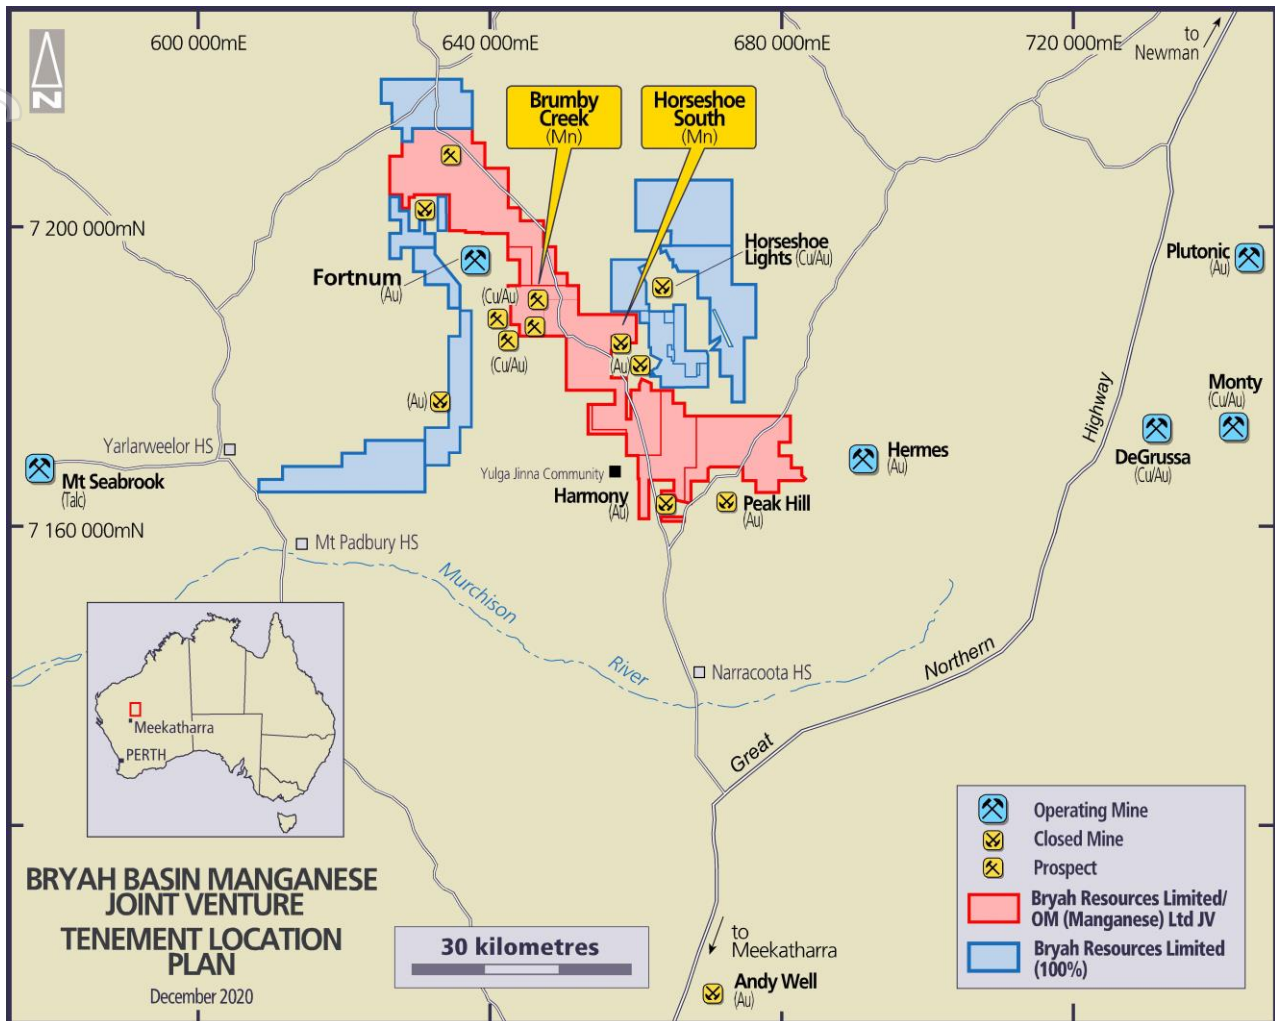

Figure 1: - Tenement Location Plan
Bryah Resources Limited (“Bryah” or “the Company”) is pleased to advise the final set of results from its latest reverse circulation (RC) drilling program at its Bryah Basin Manganese Joint Venture project (70% Bryah/30% OM (Manganese) Limited (“OMM”)), which is located approximately 150 km north of the town of Meekatharra in central Western Australia (see Figure 1).
In April 2019, Bryah executed a Manganese Farm-In and Joint Venture Agreement (“Agreement”) with OMM, a wholly owned subsidiary of ASX-listed OM Holdings Limited (ASX:OMH)¹. The Agreement applies to the rights to manganese only over approximately 660 km² in the Bryah Basin (see Figure 1 and Figure 5).